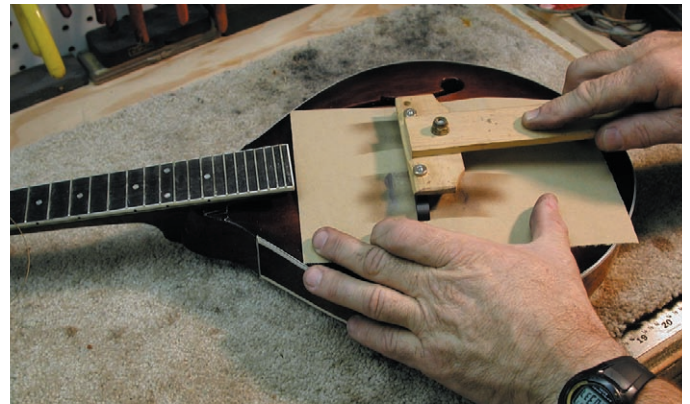

Fig. 2
2) To keep the bridge from rocking as you sand, fabricate a T-shaped fixture onto which you can fasten the bridge (remove the saddle, and secure the bridge with its own thumb nuts). This provides better control and allows you to more precisely arc the bridge as you move it forwards and backwards (Fig. 2).